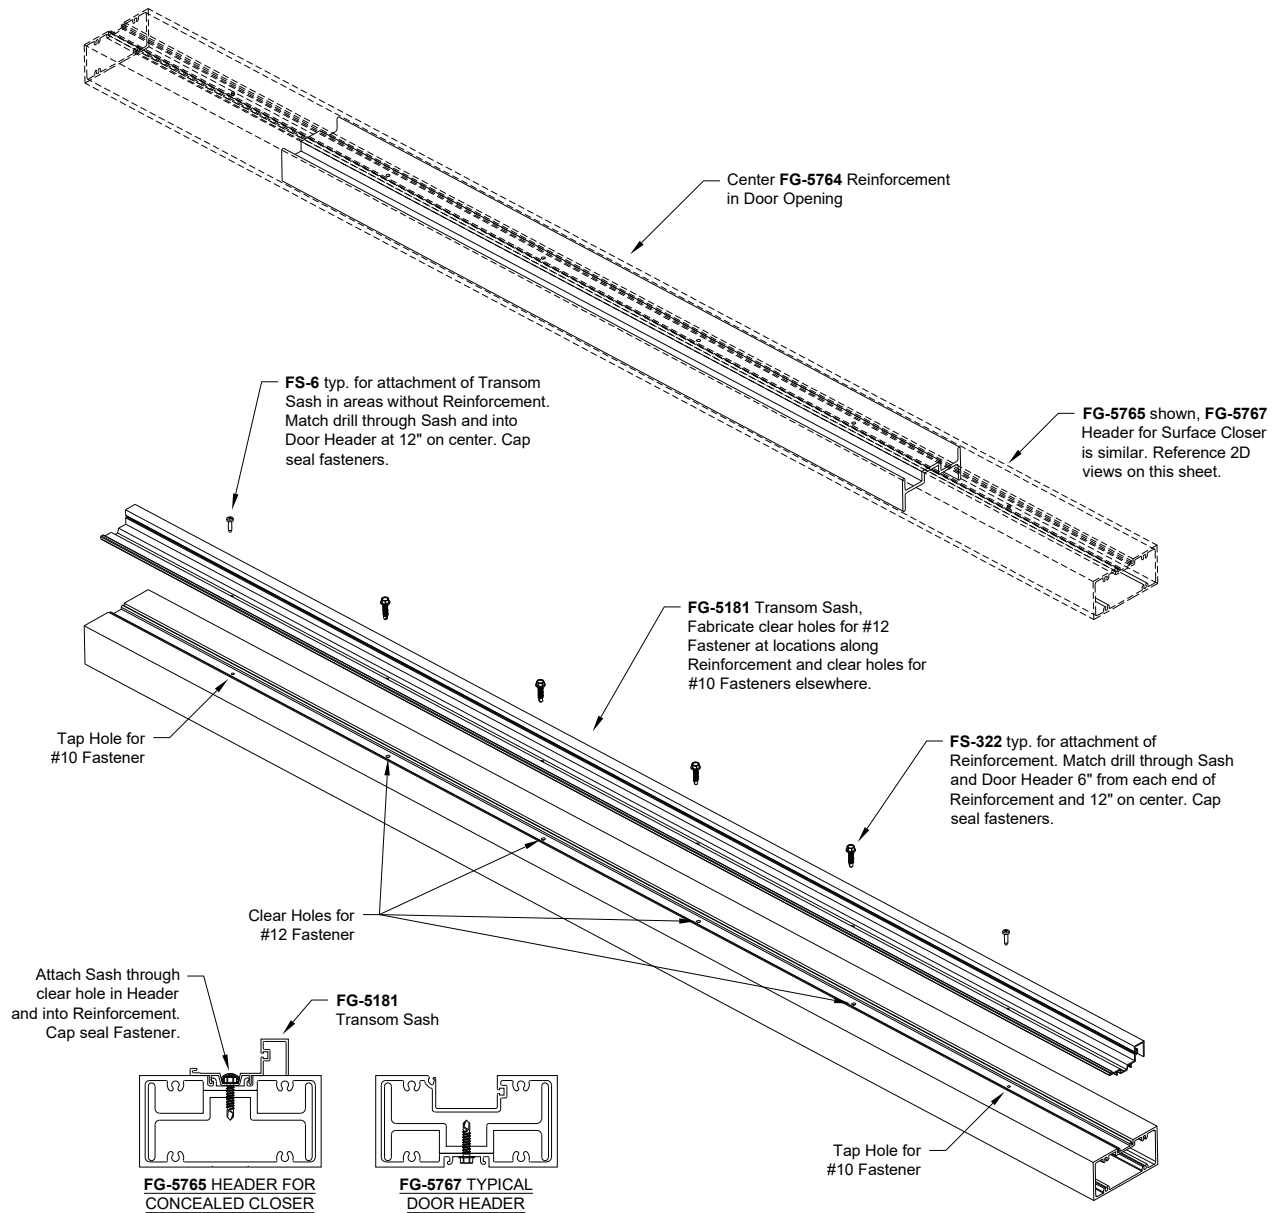

Figure 10: Installing Transom Bar Reinforcement
Where Reinforcement is required when using the **FG-5765** C.O.C. Header, replace the typical Transom Sash attachment screw **FS-6** with **FS-322** along the length of the Reinforcement, match drilling for #12 Fastener through clear holes in Sash and Header and attaching directly to Reinforcement. Where Reinforcement does not occur, attach Sash to Header with **FS-6** per typical procedure outlined in Section 4.0. Take care when fabricating Door Header to use the correct sized tap hole for the #10 **FS-6** versus the clear hole for the #12 **FS-322** at Reinforcement locations. Cap seal all fasteners along Transom Sash. Reference *Figure 10*.
- 10.1.4 *Figure 10* on Page 20 for more information.